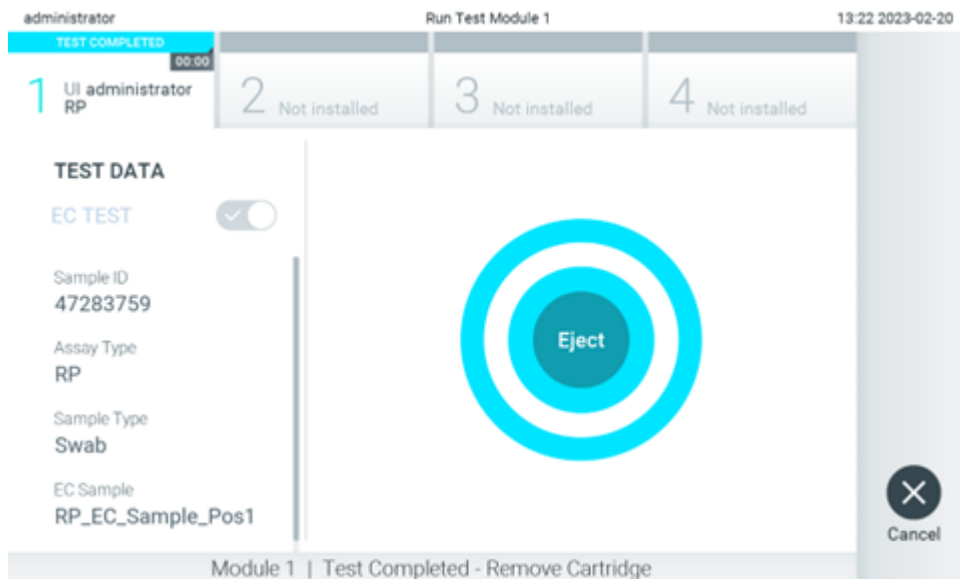

Figure 99. Eject screen display.
11. After the test run is completed, the Eject screen will appear (Figure 99). Press **Eject** on the touchscreen to remove the QIAstat-Dx assay cartridge and dispose it as biohazardous waste in accordance with all national, state, and local health and safety regulations and laws.